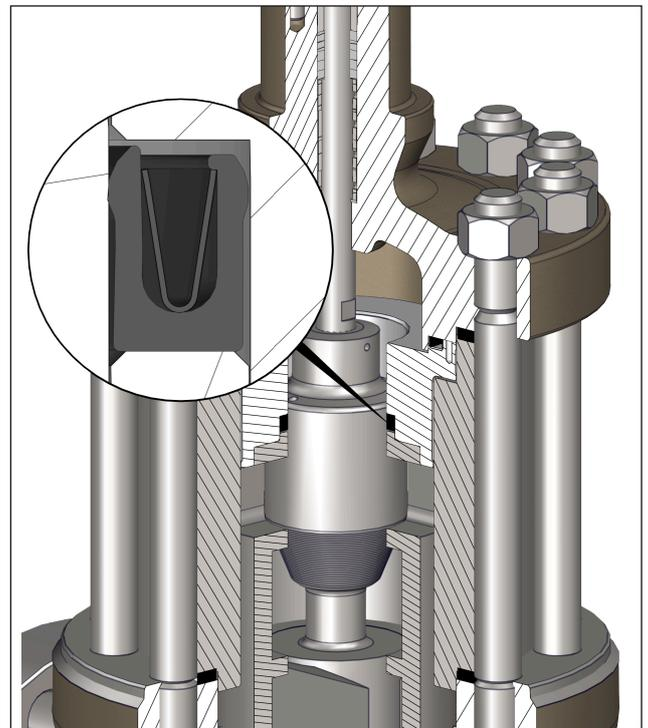

Fig. 25: Alignment of pressure-balancing seal (45) for FTO direction of flow
10. Insert a new pressure-balancing seal (45) on the cylinder (463). Make sure the seal is properly aligned (see Fig. 25).
11. Place the cylinder (463) with pressure-balancing seal (45) over the plug stem (36) into the intermediate piece (22) until it rests on the plug (5) and on the intermediate piece (22). Use the special tool for this step.
12. Place new spiral wound gaskets (17, 126) on the top of the intermediate piece (22) and on the cylinder (463).
13. Mount the valve bonnet (2), see section “b) Mounting the standard bonnet” in Chapter 9.4.1.